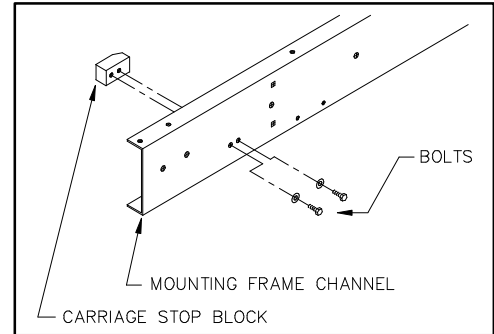

FIGURE 4-3: STOP BLOCK BOLTS
- i. Refer to **Figure 4-3**. Remove the two bolts fastening each carriage stop block to the mounting frame channel. These bolts are accessible from under the vehicle.